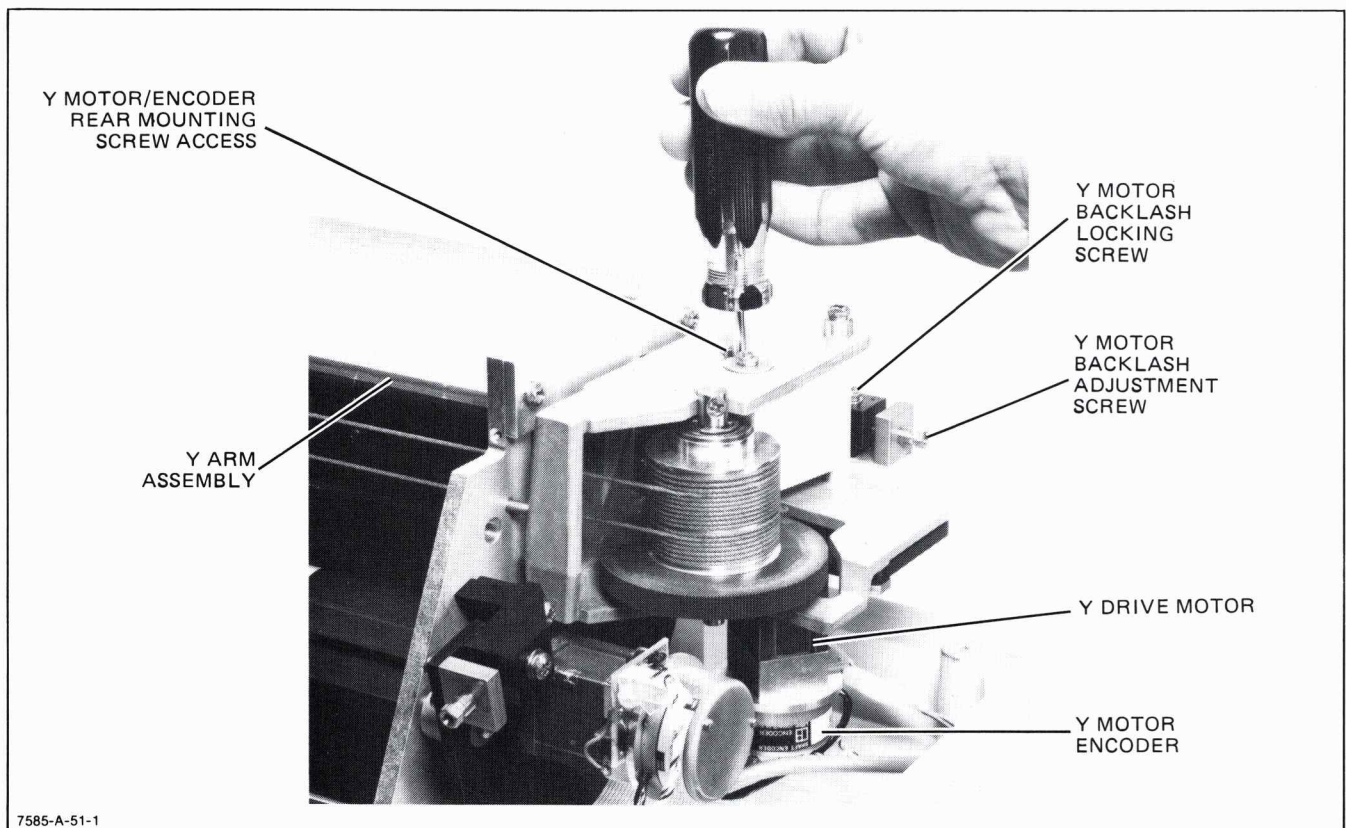

Figure 6-13. Y-Drive Motor/Encoder Replacement
- d. Loosen the Y-motor backlash locking screw. See Figure 6-13.
- f. Remove the Y-motor/encoder assembly by removing the two screws securing it to the Y-arm assembly. The rear screw is accessible as shown in Figure 6-13.